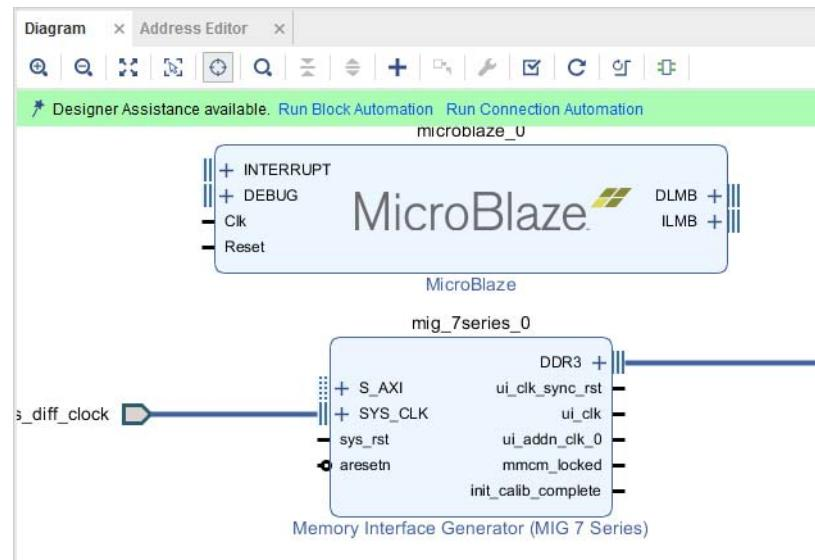

Figure 6-11: Instantiate and Run Block Automation on the MicroBlaze
3. Add the MicroBlaze processor to the design and run Block Automation, as shown in the Figure 6-11.